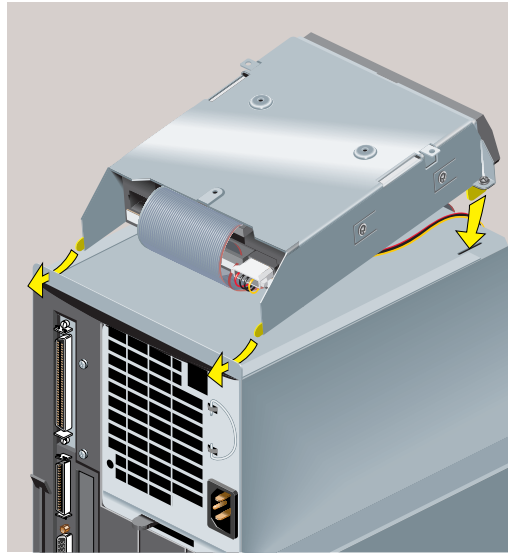

Figure 5-54 Installing the Replacement CD-ROM Drive
13. Install the replacement CD-ROM drive by sliding the two hinges on the drive's bezel into the slots on the chassis and lowering the drive until it is fully seated (Figure 5-54). Make sure that you do not pinch the SCSI and power cables as you lower the drive.